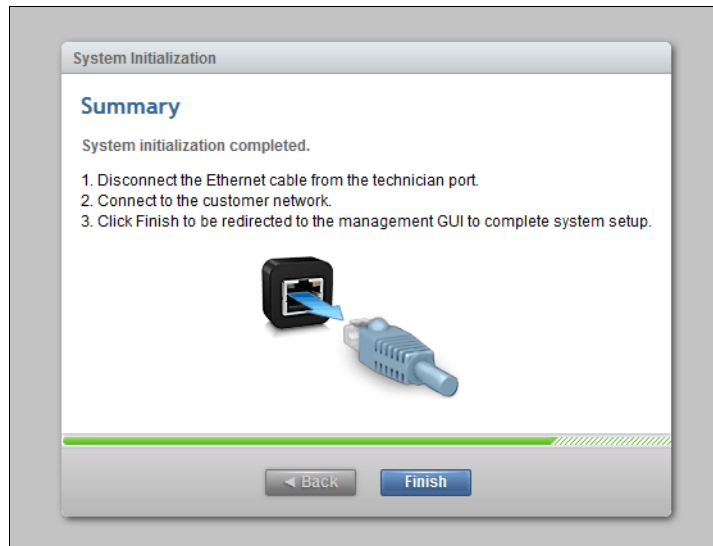

Figure 2-21 System initialization: Completion summary
10. After you complete the initialization process, disconnect the cable between the personal computer and the technician port as instructed in Figure 2-21. Reestablish the connection to the customer network and click **Next** to be redirected to the management address that you provided to configure the system initially.